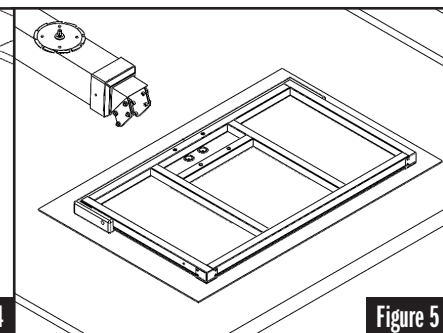

Figure 5
- A few feet in front of the Base Pole, place the Backboard (Part D) on top of cardboard, a blanket or the provided foam (this will prevent the backboard from getting scratched). See Figure 5.